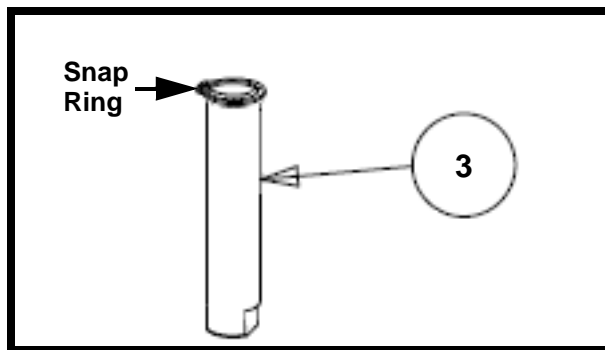

FIGURE 7
17. Install the snap ring retained in Step 8 onto item #3 (738-05142) steering shaft. See Figure 7.